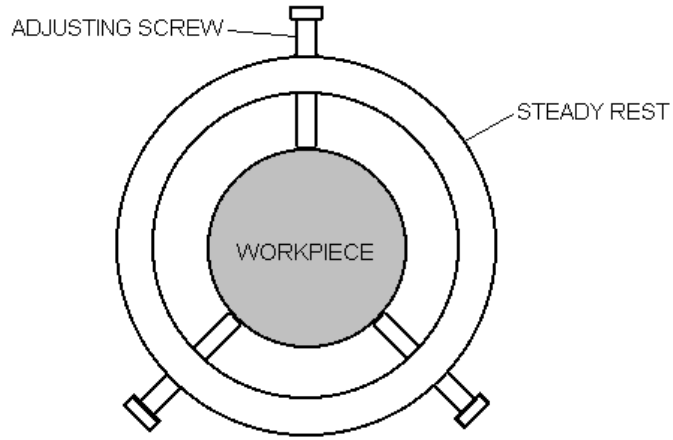

Figure 4
- 14) Turn both lower adjusting screws on the steady rest as needed to move workpiece until vertical and horizontal foot result values show zero. (Remember to loosen upper adjustment screw to raise workpiece!) Tighten upper adjustment screw. (See Figure 4).